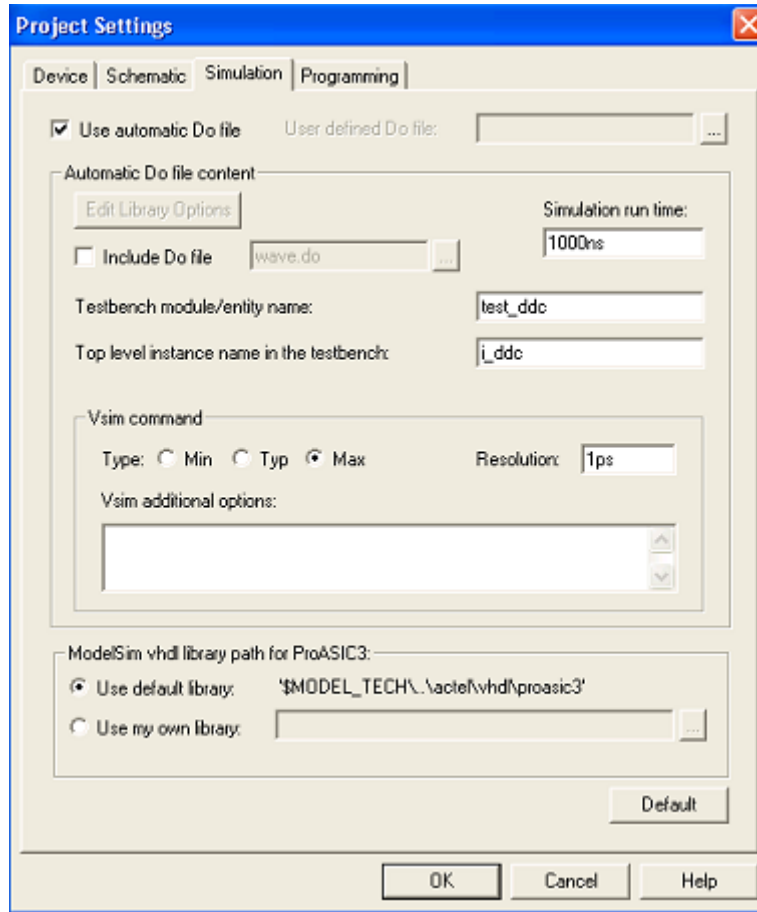

Figure 2-13. Simulation Options Window
4. Select **Settings** from the Project pulldown menu to open to open the Project Settings dialog box (Figure 2-13 on page 21).